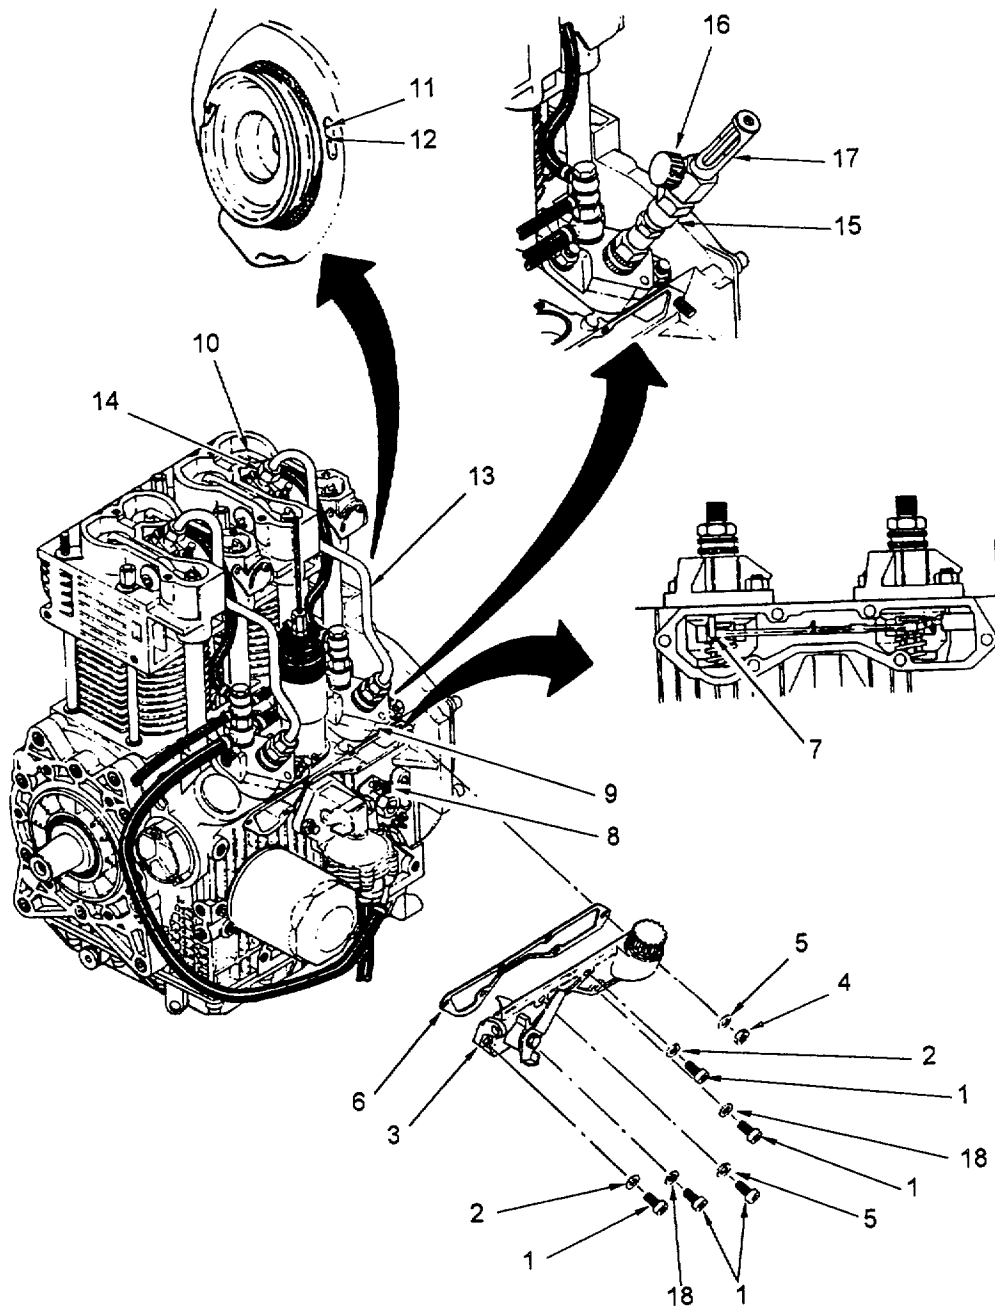

Figure 6-53. Fuel Injection Pump Timing Adjustment
6.4.30 Adjust Fuel Injection Pump. (Refer to figure 6-53.)